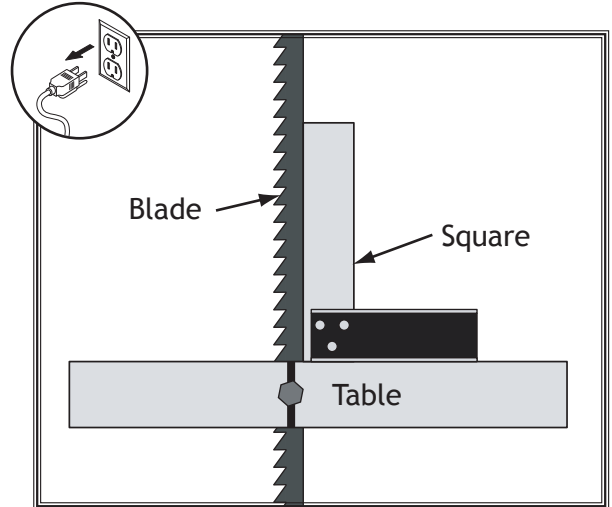

Figure 60. Squaring back of blade and table.
2. Place a square on table and against back of blade, as illustrated in **Figure 60**. Table should be perpendicular to back of blade.